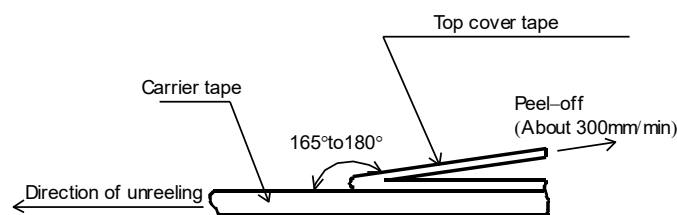

Figure-8
- 5). The peel strength of the top cover tape shall be within 0.1N to 0.5N on the test method as shown in the following RMPC04,06: Figure-8, RMPC10,16,20,32: Figure-9, RMPC35: Figure-10.